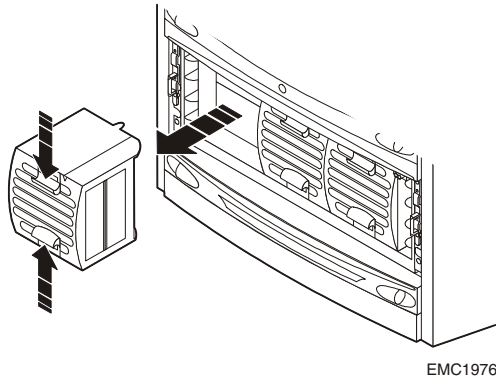

Figure 3-6 Removing a Fan Module
3. Squeeze the latches together and gently pull the fan module out. Refer to Figure 3-6.